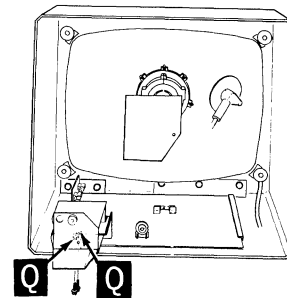

Figure 6.2
2. Refer to Figure 6.2 and remove the two 8-18 x .625" hex head screws at Q that secure the power transformer assembly to the bottom of the cabinet; then remove the assembly from the cabinet.